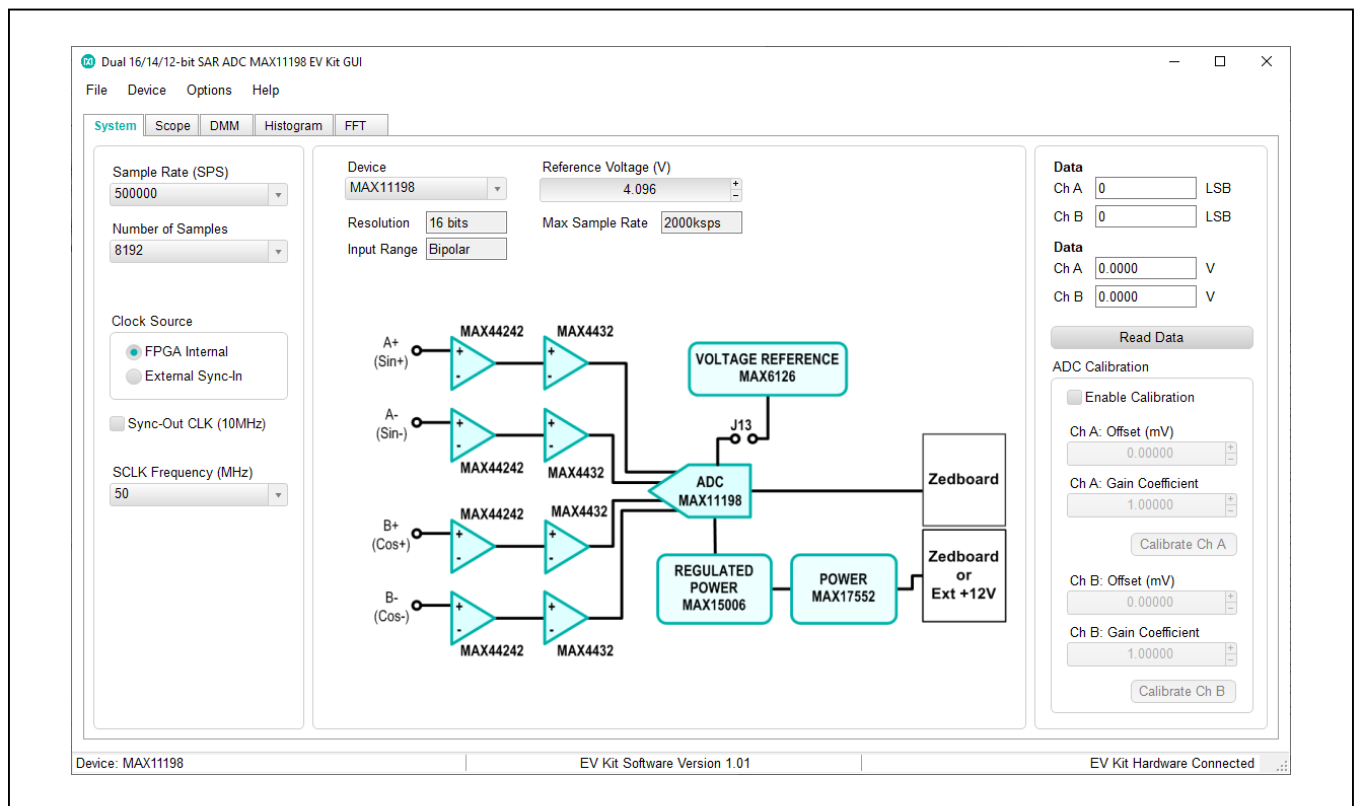

Figure 1. EV Kit Software (Configuration Tab)
- 16) The EV kit software appears as shown in Figure 1.
The **Read Data** information is displayed on the right, which shows the data in both voltage and LSB, see Figure 1.